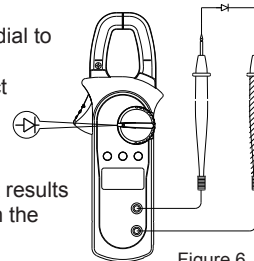

Figure 6
4. Diode measurement (\rightarrow) (See Figure 6)